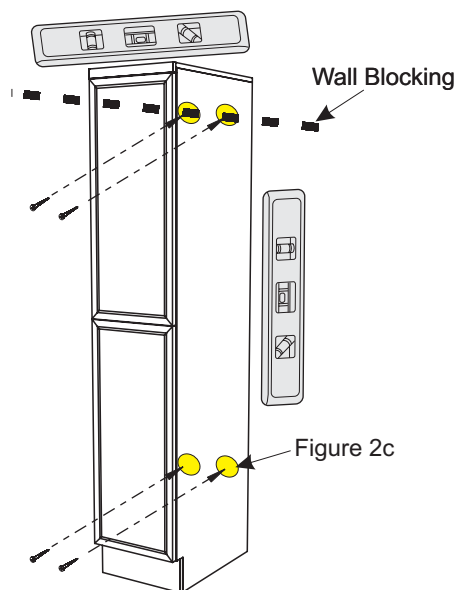

Figure 2b
Use shims to make sure the cabinet is flush and level (see Figure 2b). The Tower Cabinet (A) should be secured to the wall as shown in Figure 2b using 1-3/4" long wood screws in the upper portion of the Tower into wall blocking and the lower portion of the tower into wall studs or compatible anchoring fastener (see Figures 2b and 2c).